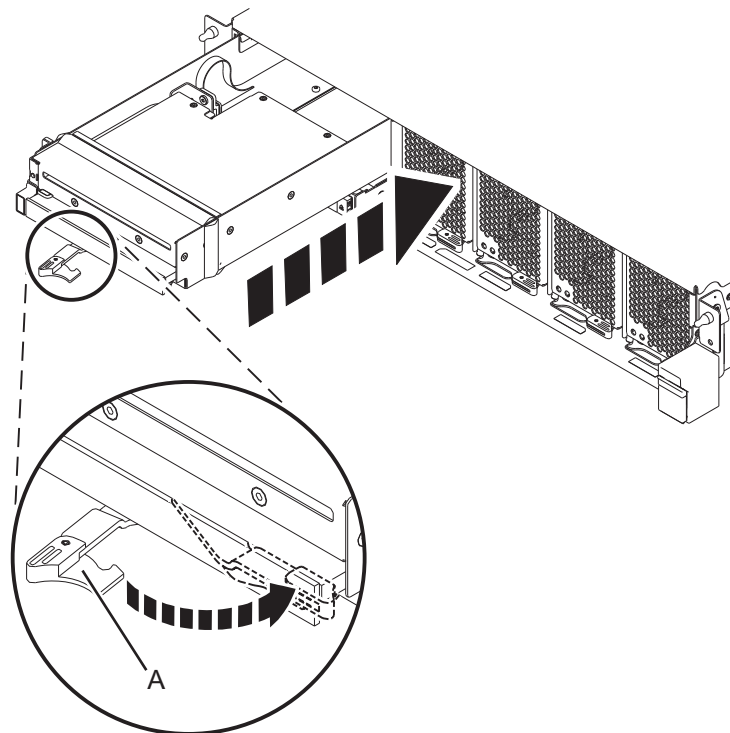

Figure 7. Installing a Slimline media device in an 9080-MHE, 9080-MME, 9119-MHE, or 9119-MME system control unit
- a. Ensure that the Slimline media device handle (**A**) is rotated open as shown in Figure 7.